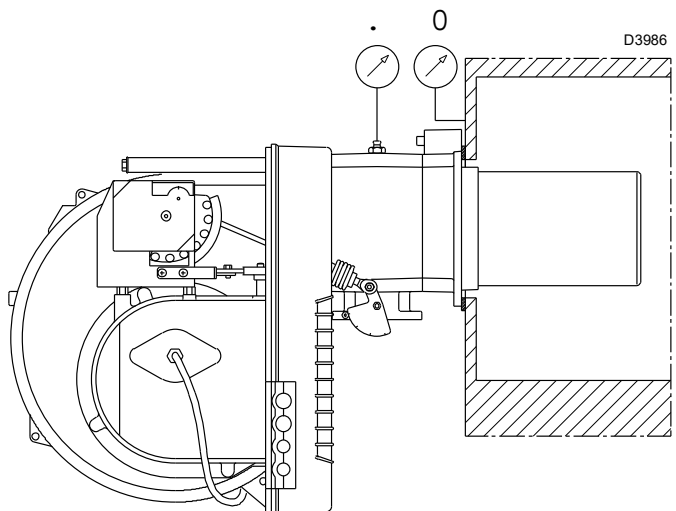

Fig. 24
- Fit a pressure gauge (Fig. 24) to the gas pressure test point on the pipe coupling. The pressure gauge readings are used to calculate MAX burner output using Tab. H on page 30.
The arrival of gas to the pipe coupling is shown by the pressure gauge (Fig. 24 on page 22).
A rough indication can be obtained from Tab. H on page 30; just read the gas pressure on the pressure gauge of Fig. 24 on page 22 and follow the instructions at page 18.